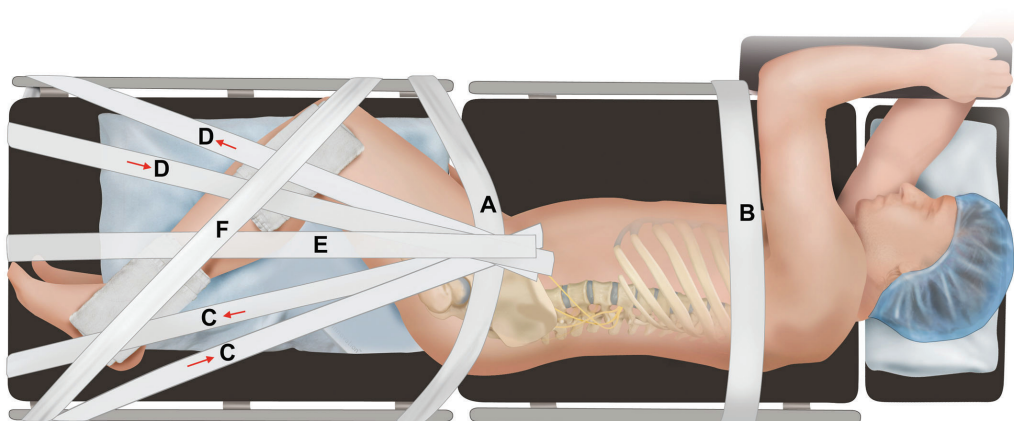

Figure 2
- Place the patient in a lateral decubitus (90°) position on a breakable surgical table such that the patient's greater trochanter is directly over the break in the table. The surgical table should be reversed prior to positioning the patient so that fluoroscopy may be used (**Figure 2**).
- Secure the patient to the table using surgical tape per the following (**Figure 2**):